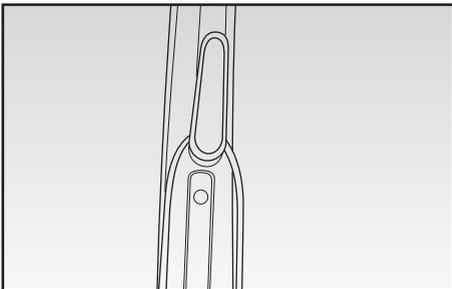

Fig. 14
- Reassemble the appliance and store it using the apposite rear cord winder (A) - Fig. 14.